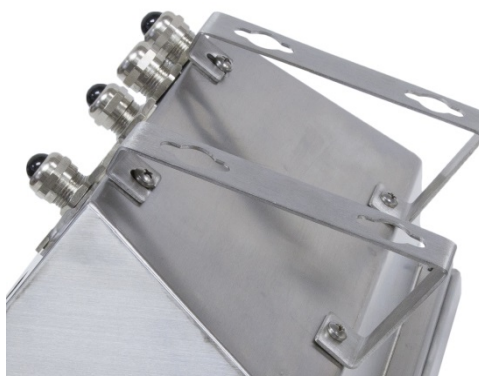

Figure A-19: Attaching the Wall-Mounting Brackets
1. Bolt the two brackets to the bottom of the enclosure using the four M4 screws included with the terminal. The brackets should be attached as shown in Figure A-19.